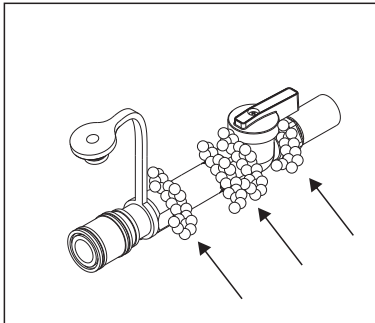

Figure 5
3. Check all the connections and joints with ammonia free soapy water solution or leak detection solution. Bubbles that appear to grow in size are the indication of a gas leak (Figures 5 and 6).